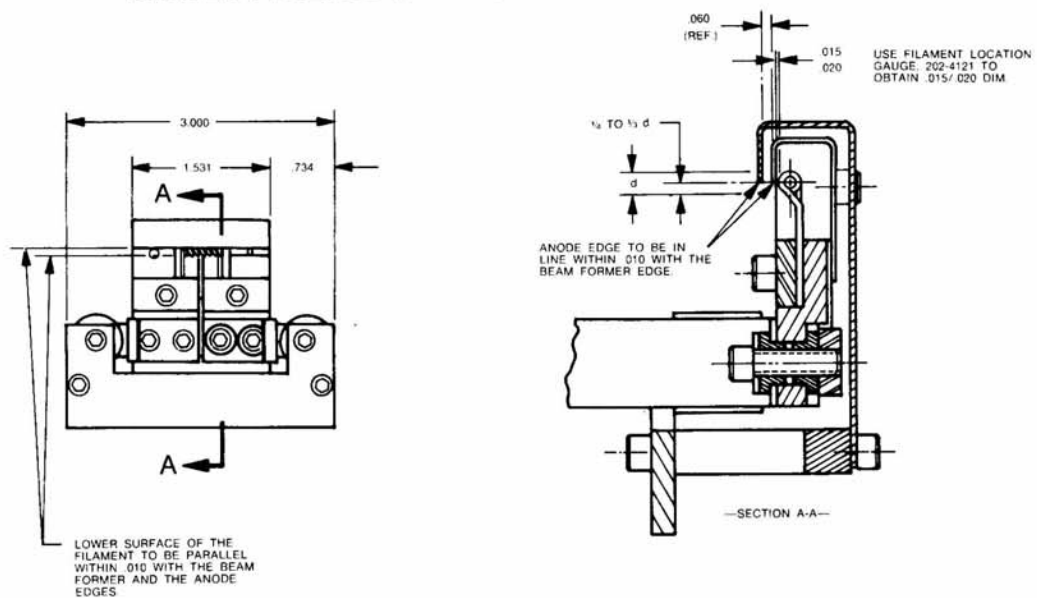

FIGURE 7
6. Insert a new filament in the filament cavity. Replace the filament clamps. Make sure that the filament legs are located in the "V" slots in the filament clamps, bottomed against the cathode blocks, and loosely clamped in place. Refer to Figure 7.
7. Position the filament as shown in Figure 7 using the filament location gauge, and tighten the two filament clamp screws. Be sure that the filament is parallel to the beam former in both planes.